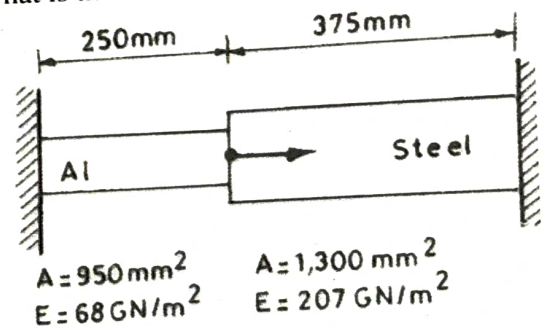

Figure 3
8. A composite bar (see Figure 3) is firmly attached to unyielding supports at the ends and is subjected to the axial load F . If the aluminum is stressed to 70 MPa , what is the stress in the steel? [07]